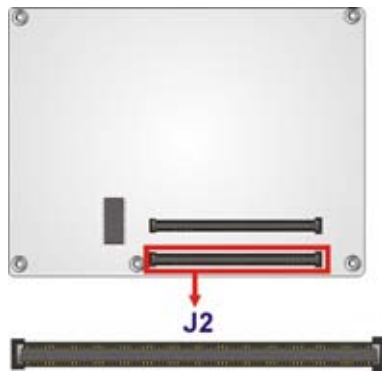

Figure 4-4: COM Express Connector AB Location
- CN Location:** See **Figure 4-4**